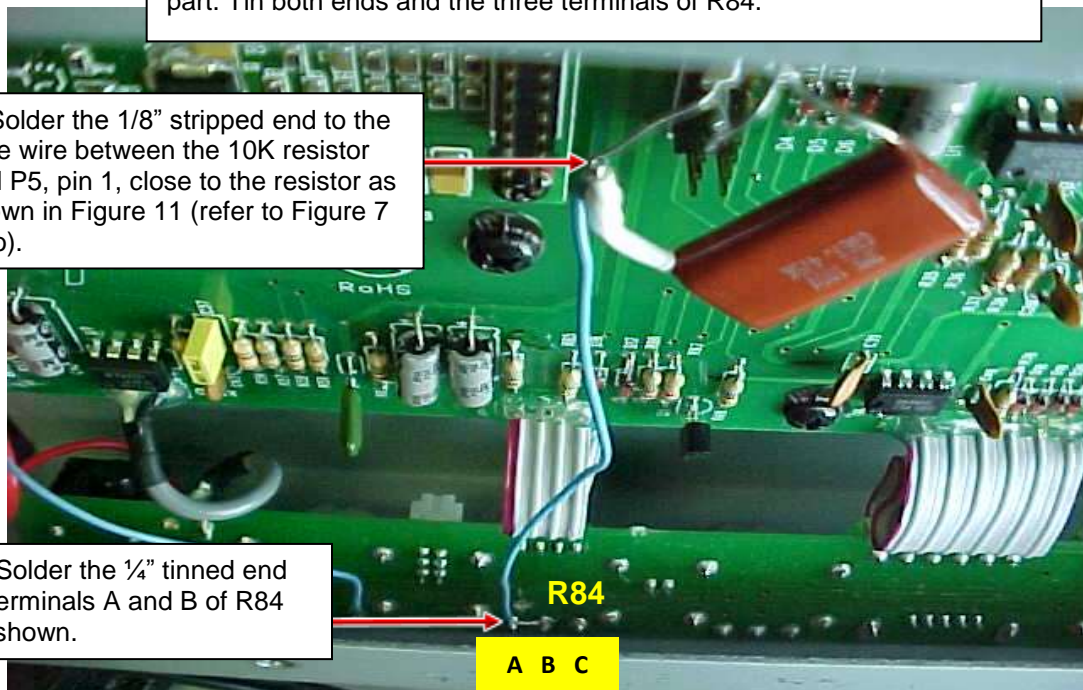

Figure11
2. Solder the 1/8" stripped end to the bare wire between the 10K resistor and P5, pin 1, close to the resistor as shown in Figure 11 (refer to Figure 7 also).